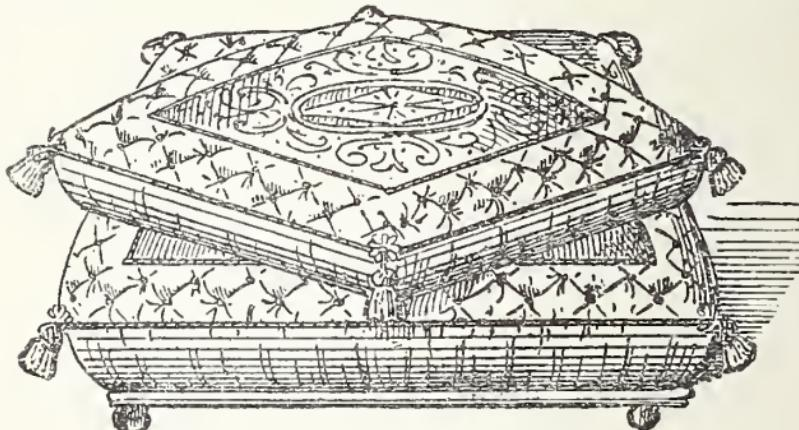

FIG. 23.
**Double-pouffe Ottoman.**—This ottoman, represented in Fig. 23, is made to look like two cushions placed one on the top of the other. These can be fixed or worked on a center swivel. The bottom cushion is composed of a wood frame covered, the border shown being fixed to the wood with nail buttons. The top cushion has a wood frame equal to half of the bottom one. The springs will be placed in this, and the stuffing rounded off to the shape of the bottom half.